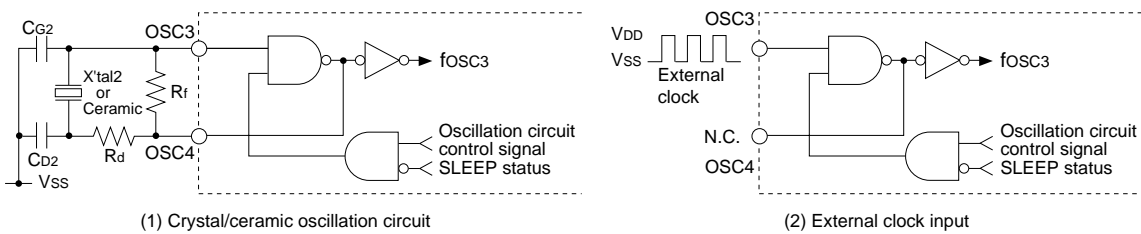

Figure II.6.2 High-Speed (OSC3) Oscillation Circuit
Figure II.6.2 shows the structure of the high-speed (OSC3) oscillation circuit.
When using a crystal or ceramic oscillation for this circuit, connect a crystal (X'tal2) or ceramic (Ceramic) resonator, a feedback resistor (Rf), two capacitors (CG2, CD2), and a drain resistor (Rd), if necessary, to the OSC3 and OSC4 pins and VSS as shown in Figure II.6.2 (1).